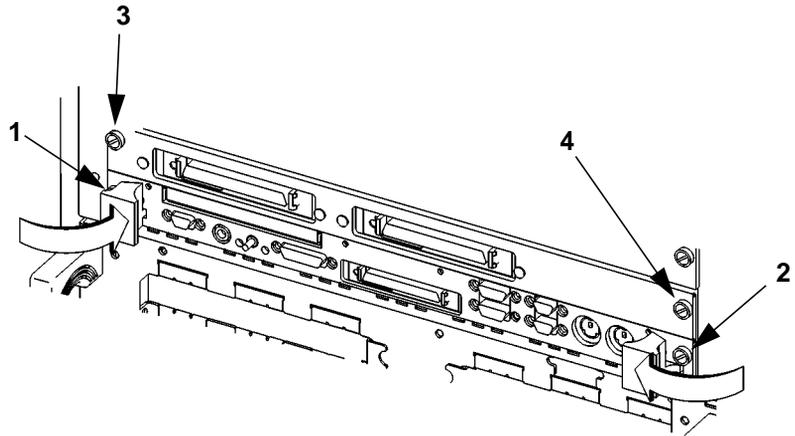

Figure 3-2
- 3 Engage and tighten the captive screws (labeled 1 and 2 in Figure 3-2) at each end of the board computer. These screws hold the computer in the VME card cage.
- 2** Engage all captive screws (labeled 1 and 2, 3 and 4, in Figure 3-2) before tightening each screw of the Model 744 and the extension panel(s).